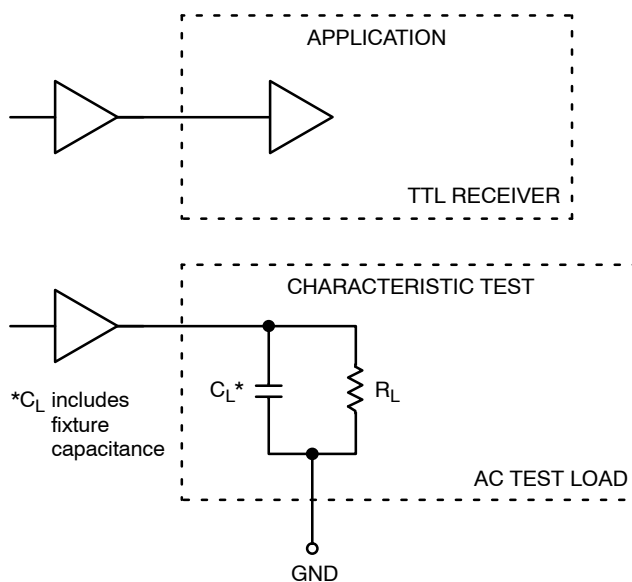

Figure 3. TTL Output Loading Used for Device Evaluation
1. Measured with a 750 mV 50% duty-cycle clock source. $R_L = 500\ \Omega$ to GND and $C_L = 20\text{ pF}$ to GND. Refer to Figure 3.